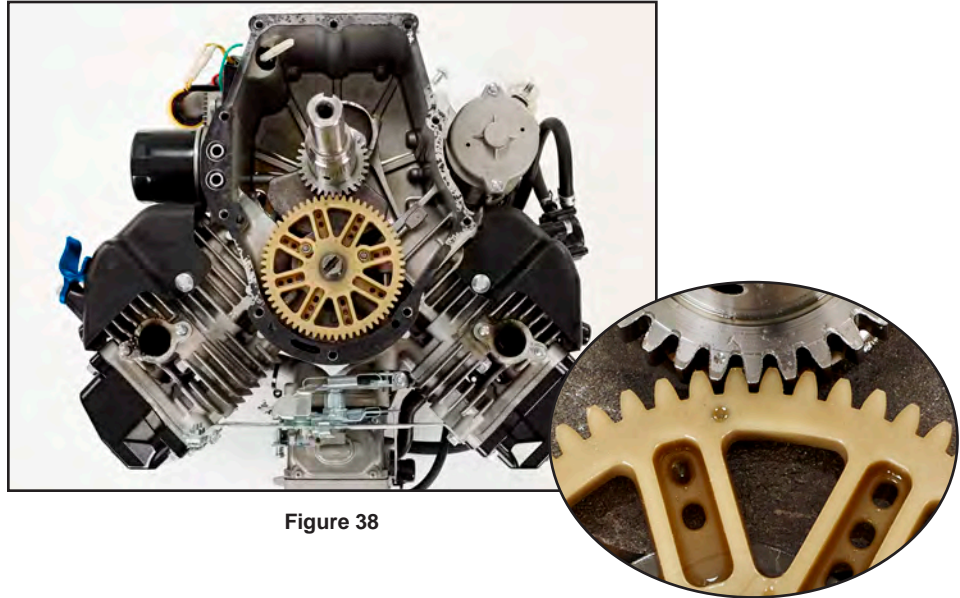

Figure 38
3. Remove the four followers, marking each for *cylinder #1* and *#2* and whether *intake* and *exhaust* (Figure 38).